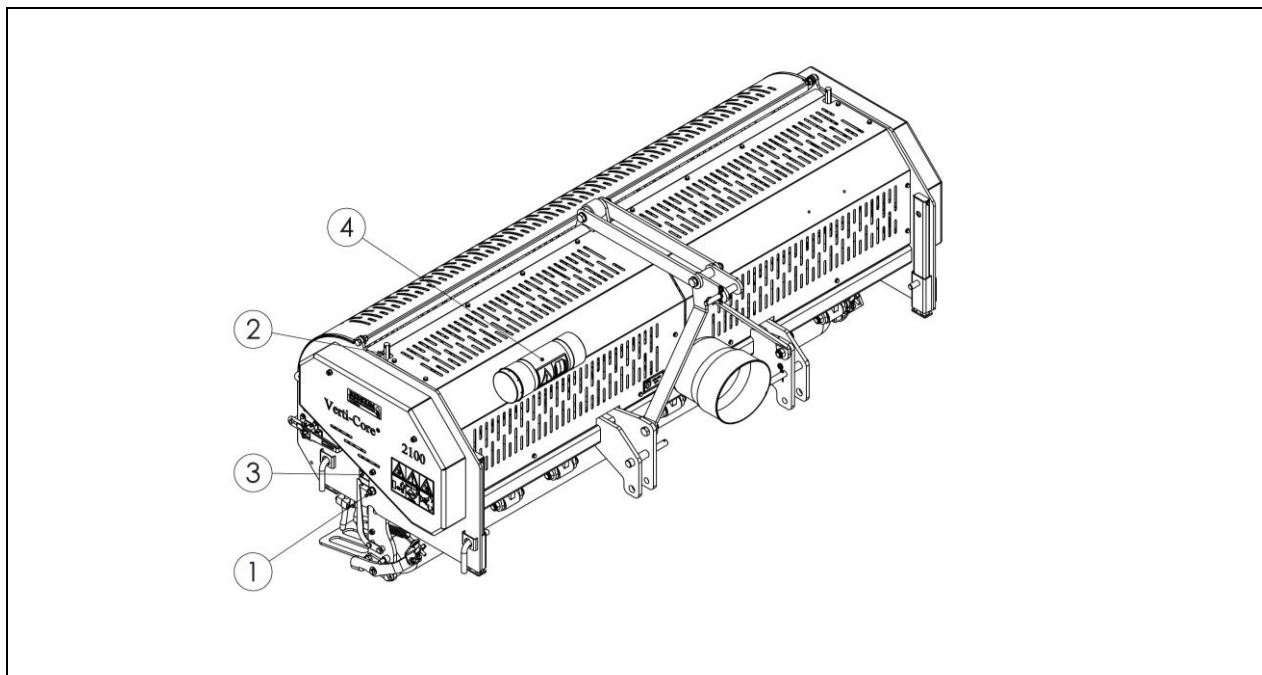

Fig. 10
The working depth can be set when the machine is lifted off the ground. (see Fig.10)
-  **Make sure the top link (3), see Fig. 10, is connected and tensioned in the conveyor. If this is not case, the machine could sustain serious damage.**